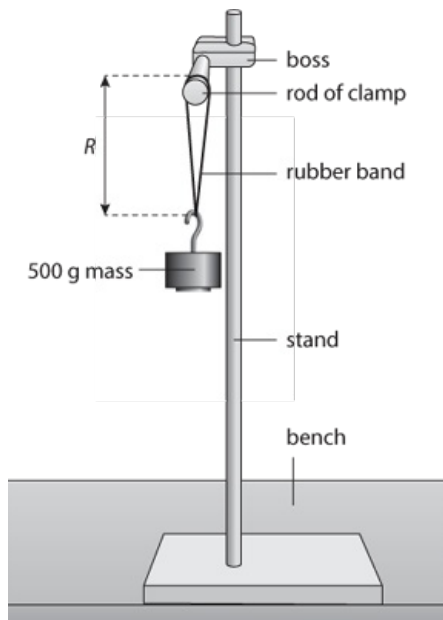

Figure 2.3: Rubber band, with weight, suspended from one rod.
- 1 Set up the apparatus as shown in Figure 2.3. The distance between the top of the rod of the clamp and the hook of the mass hanger is R .